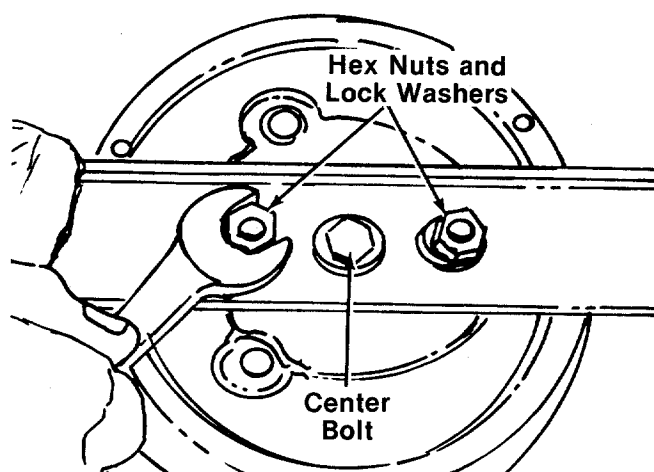

FIGURE 28.
To remove the cutting blade for sharpening or replacement, remove the two hex nuts and lock washers which hold the blade to the blade brake/clutch. See figure 28.
9. Tip the mower on its side. Remove the blade by removing two hex nuts and lock washers. Refer to figure 28.